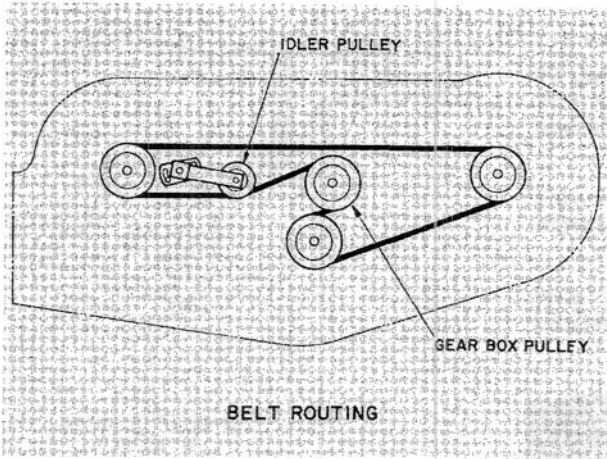

Figure 107
5. Install new belt around gear box pulley, spindle pulleys and idler pulley (Fig. 107).